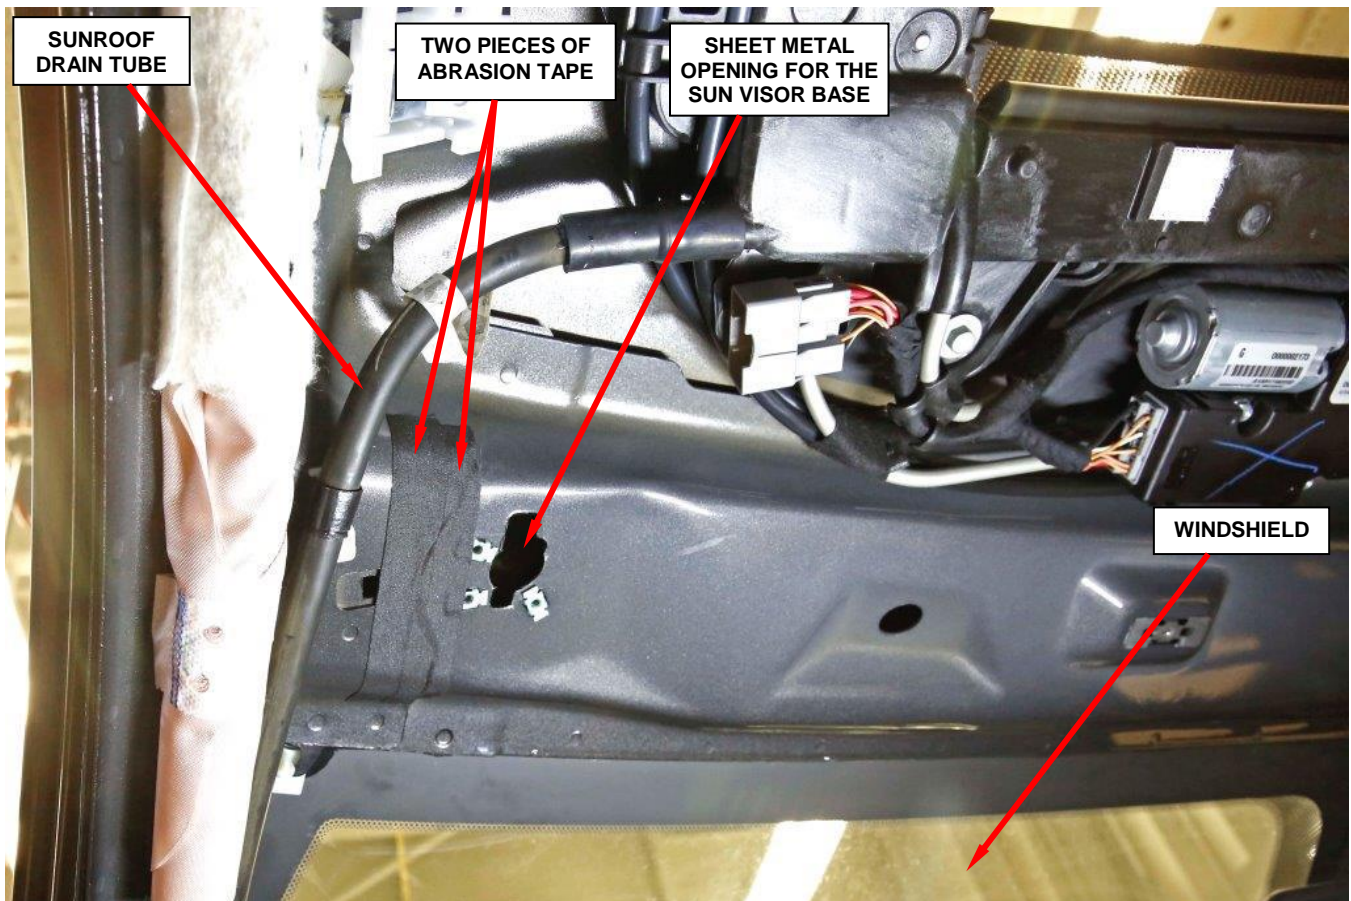

Figure 20 – Apply the Two 5 Inch Strips of Tape Over Sheet Metal Seam (left side shown)
46. Apply the two pieces of cloth abrasion tape over the sheet metal seam located at the top of the “A” pillar (Figure 20).